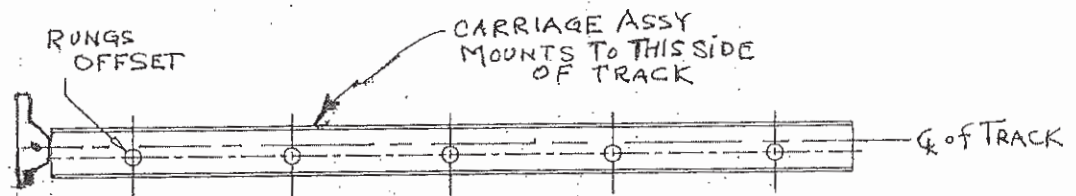

Figure B-1
1. Notice that the Rungs on the Track Sections are closer to one edge of the track than the other. See Figure B-1
2. See chart in Figure B-2 to determine how many Track Sections are required to reach the proper height for the job, lay the Track Sections on the ground with the Rungs Closer to the ground. The first section is the Base section and will have free swinging metal feet, see Figure B-1.